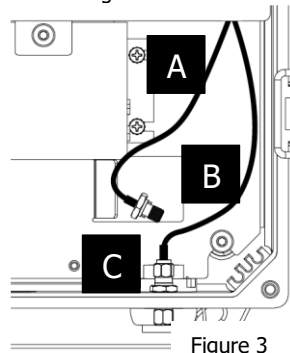

Figure 3
3. Screw on and hand tighten the connector on cable B to connector C as shown below. (Figure 3)